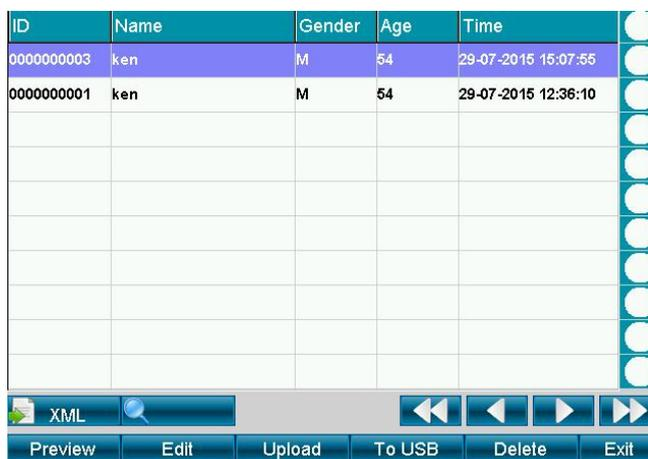

Fig. 5-3 Storage
**Operating Method:** As the above Fig. 5-3 from F1 to F6, there are 6 keys to select and a touch screen will be much easier for operation.